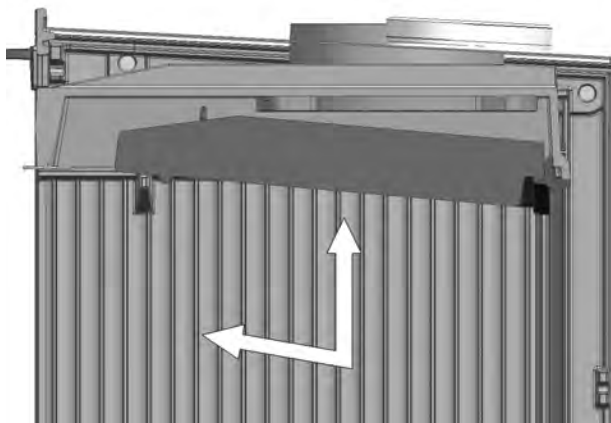
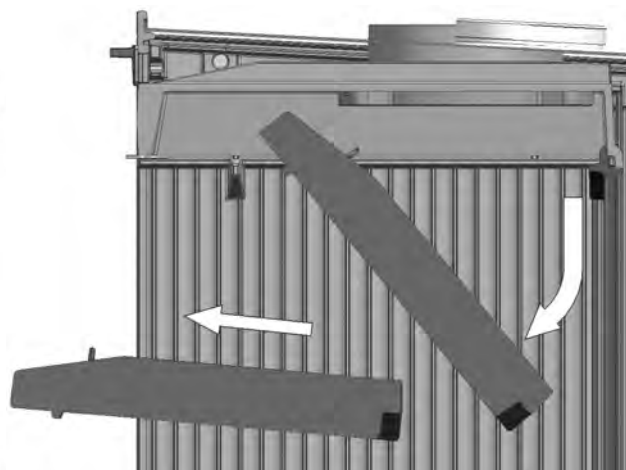

Fig. 1
Fig. 2
1. Release the front grille by loosening the two screws at the bottom (Fig.1 and Fig.2)
1. A – Slide the baffle plate forwards and upwards until the side pins of the baffle are removed (Fig. 1, Fig.2)